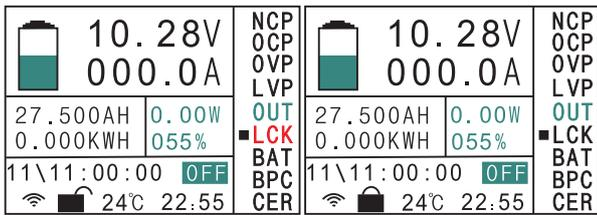

Figure 4-6
6). "**LCK**" Key lock control, move the cursor to this option, click the **OK** key to select this option, click the  $\downarrow$  key to lock the key as shown in Figure 4-6, if locked, all the keys cannot work, only long press the **OK** key for more than 10S can be unlocked, shown in Figure 4-6.